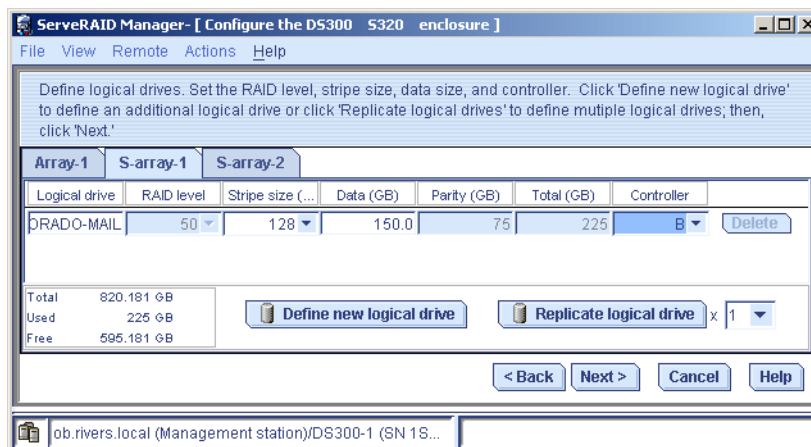

Figure 4-72 Logical drive COLORADO-MAIL
17. As shown in Figure 4-72, select **S-array-1**. Assign a meaningful logical drive name. The RAID level is determined automatically by the used base arrays. For logical drives in RAID 5, RAID 10 and RAID 50 arrays the stripe size can be modified. Different stripe sizes are available. 256 is the default value. Smallest stripe size is 16K and largest stripe size is 1MB. Define the size of the logical drive and the preferred controller.